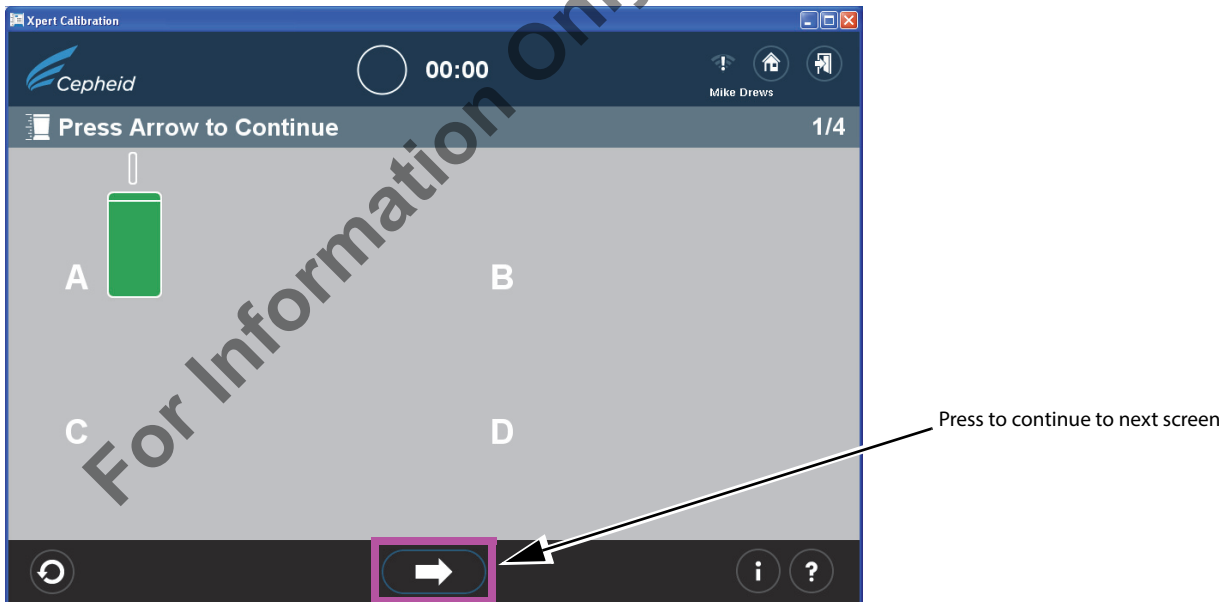

Figure 29. Test Completion screen - Successful
- b. After test completion, the module door will open and the light above the module will turn off. A screen similar to that shown in Figure 29 will appear. Press the right arrow at the bottom of the screen to advance to the next screen.